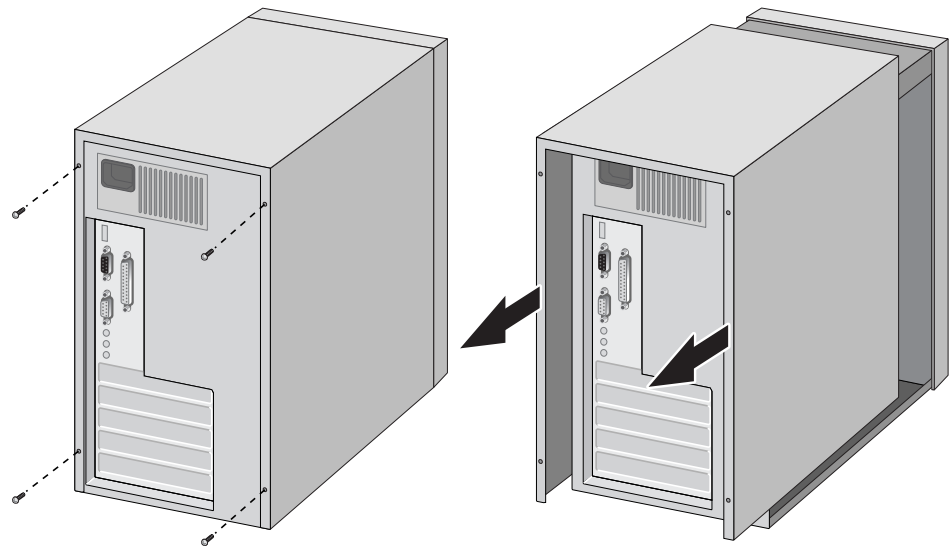

Figure 11. Removing the PC Cover
2. Remove the system cover and select any empty PCIe slot. See Figure 11.